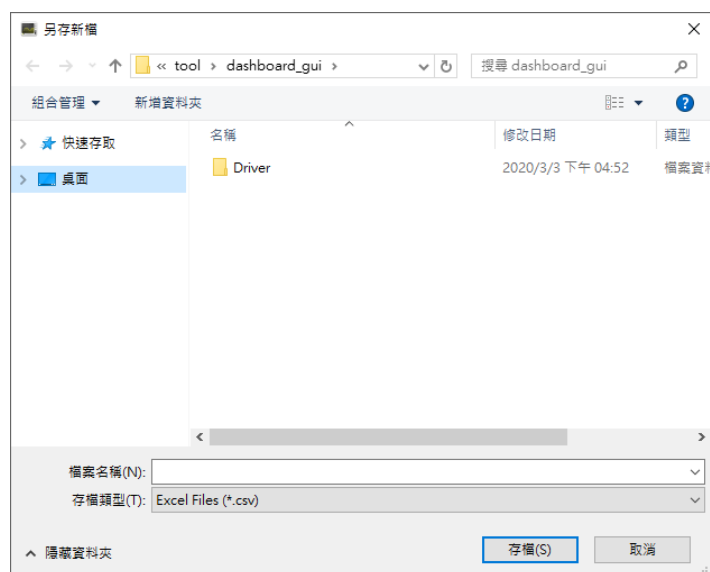

**Figure 4-14 Board Information**
- **Board Information:** There is a File page on the upper left of the Dashboard GUI program window, click the Board Information to get the current software version and the Apollo S10 board version, as shown in Figure 4-14.